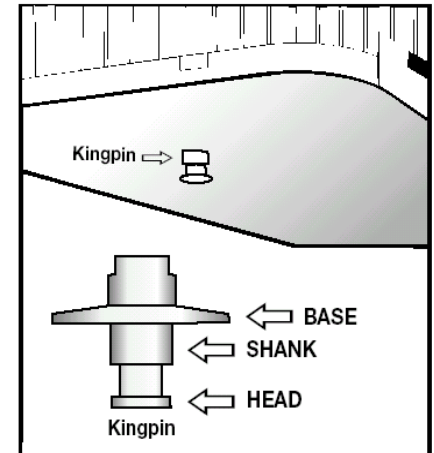

FIGURE 6.8
- Locking jaws around the shank, not the head of kingpin. See Figure 6.8.